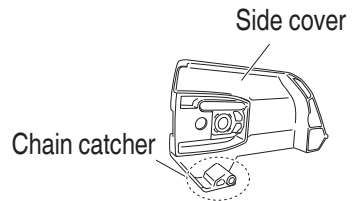

Fig. 47
6. Inspecting the chain catcher (**Fig. 47**)